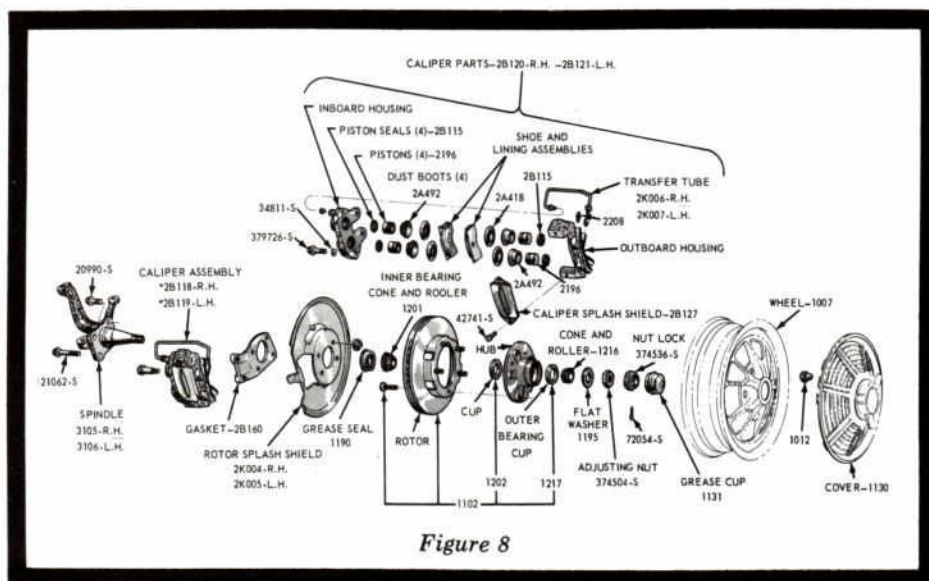

Figure 8
1. Remove the wheel and tire assembly from the hub and rotor assembly (Figure 8). *Be careful to avoid damage or interference with the caliper splash shield, bleeder screw fitting or transfer tube.*
1. If the rotor is being replaced, remove the protective coating from the new rotor with carburetor degreaser. Pack a new set of bearings with the proper grease, and install the inner bearing cone and roller assembly in the inner cup. Pack grease lightly between the lips of a new grease retainer and install the retainer (Figure 8).
2. Remove the four nuts (Mustang) or three nuts (Thunderbird) that retain the splash shield to the mounting bracket and remove the shield (Figure 8). On Thunderbirds, a gasket is located between the spindle and the shield.
2. If the shield is bent, straighten it out before installation. Position the shield to the mounting bracket (Figure 8), install the retaining nuts, and torque to specification (see page 9).